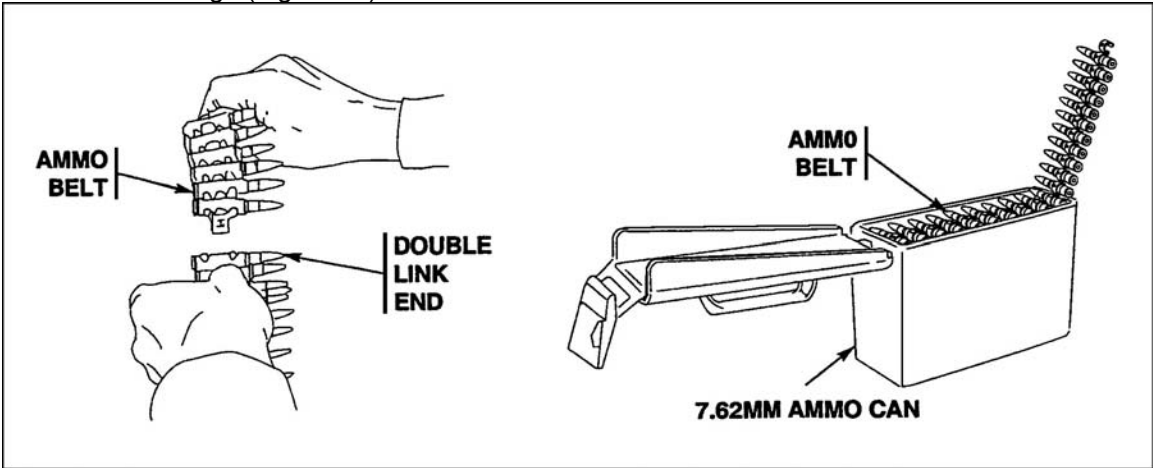

Figure 11. 7.62mm ammo belt.
- (1) Unstow empty 7.62-mm ammunition cans.
- (2) Count off 100 cartridges on the belt. Twist the belt and separate the belt at the 100th cartridge (Figure 11).